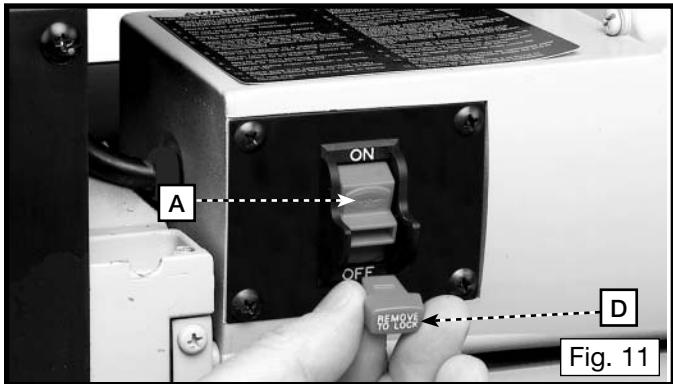

Fig. 11
IMPORTANT: When the machine is not in use, the switch should be locked in the "OFF" position to prevent unauthorized use. To lock the machine, grasp the switch toggle (D) and pull it out of the switch (Fig. 11). With the switch toggle (D) removed, the switch will not operate. However, should the switch toggle be removed while the planer is running, the machine can be turned "OFF," but cannot be restarted without reinserting the switch toggle (D).